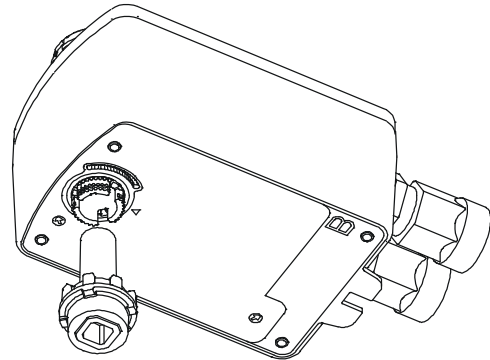

Figure 6: Inserting the Drive Shaft
3. Insert the drive shaft into Side B (Figure 6). The drive shaft is keyed for one-way assembly. With gentle pressure applied, rotate the drive shaft until the key aligns and the drive shaft falls into place.